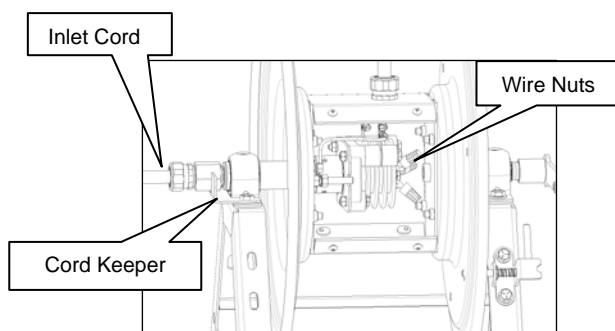

Figure 1
- Connect inlet cord to slip ring wires marked 1 through 3 with appropriate sized wire nuts or other suitable connectors. Make connections as short as possible to avoid interference with rotating parts (see **Figure 1**).
- The cord keeper will help prevent inlet cord rotation during reel operation (see **Figure 1**).